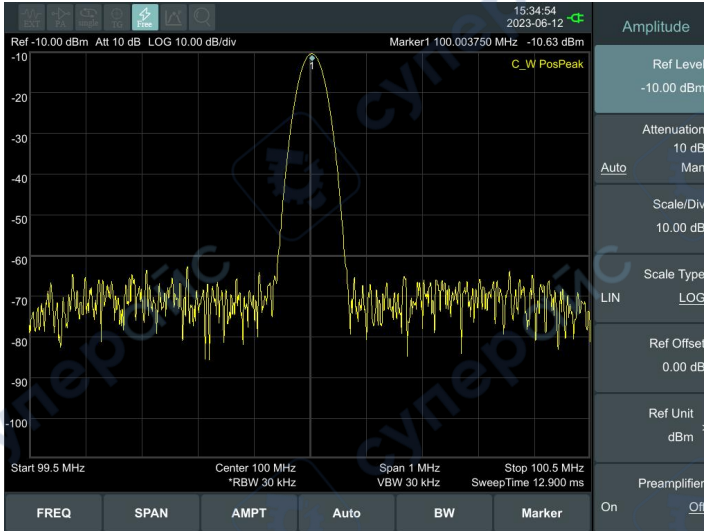

Figure 4- 12 Set reference level
- 1) Press **【Preset】** on the front panel to restore the analyzer to its factory-defined state. The Spectrum analyzer will display the spectrum from 9kHz to the maximum span width. The signal generated will display as a vertical line at 100MHz. Refer to Figure 4- 10.